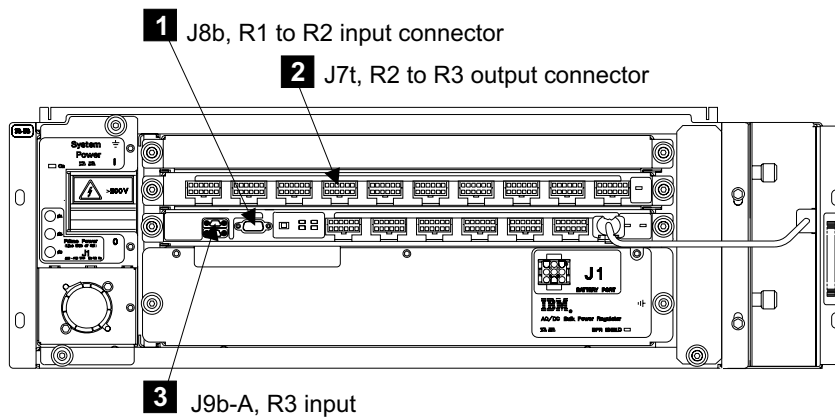
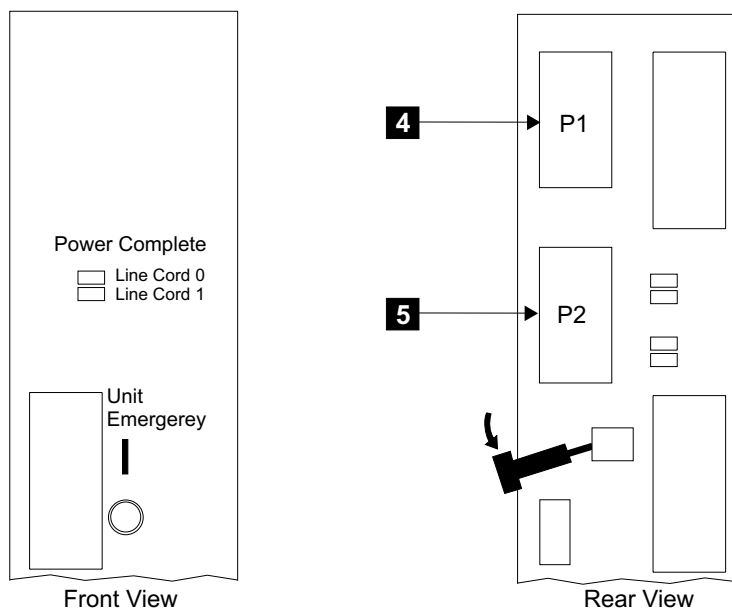

Figure 101. Head-of-String (R2) Bulk Power Connectors (t009043)
Figure 102. 2105 Model 100 Rack Operator Panel Switches (t009044)
- ___ 1. Connect the bulk power interconnect "Y" cable P/N 34L5521 (supplied in FC 1121 compatibility ship group) between 2105 Model Exx/Fxx (R1) RPC-1 P3 connector and the front bulk power supply of the first 2105 Model 100 (R2, head-of-string) connector J8b **1** and then to the first 2105 Model 100 (R2) Operator panel connector P1 **4**. See Figure 101 on page 118 and Figure 102 on page 118.